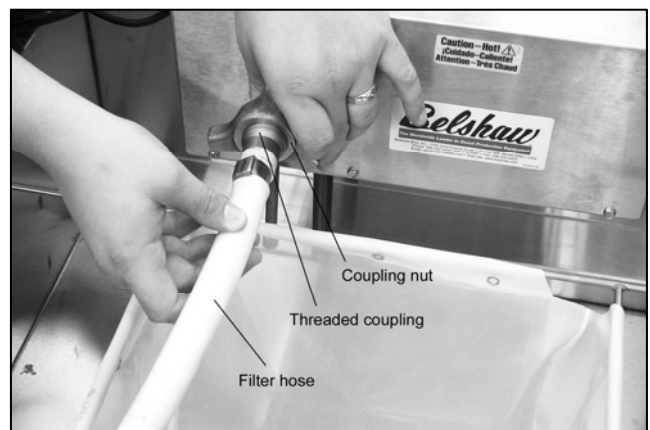

Figure 1-6. Installing the filter hose.
4. Install the filter hose assembly. Thread the coupling nut onto the end of the hose assembly as shown in Figure 1-6.